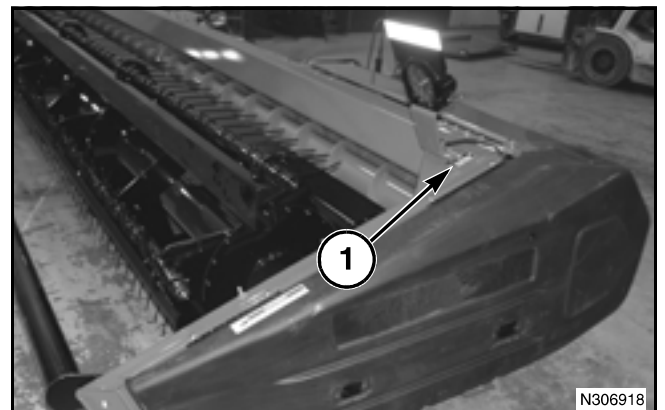

FIG. 1
FIG. 1: Each machine is identified by a model and serial number on the serial number plate (1). The serial number plate is located on the left-hand end of the header.